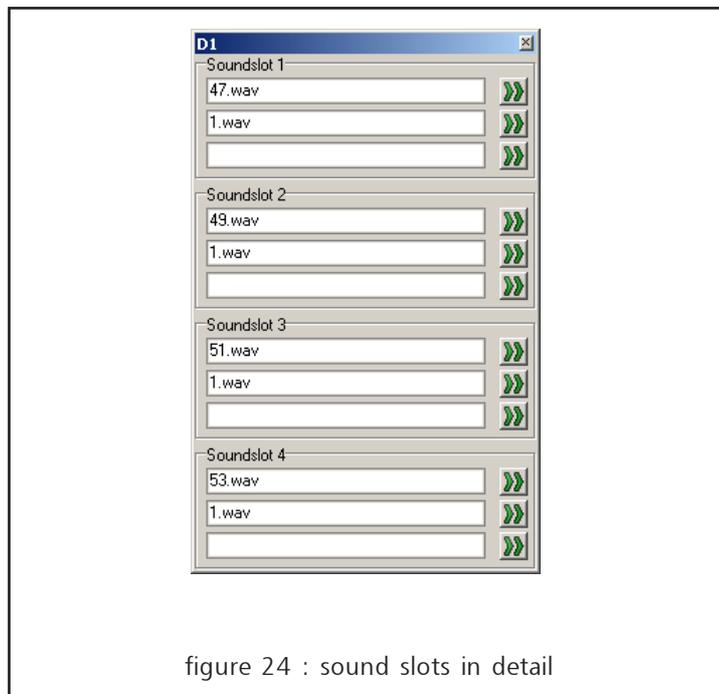
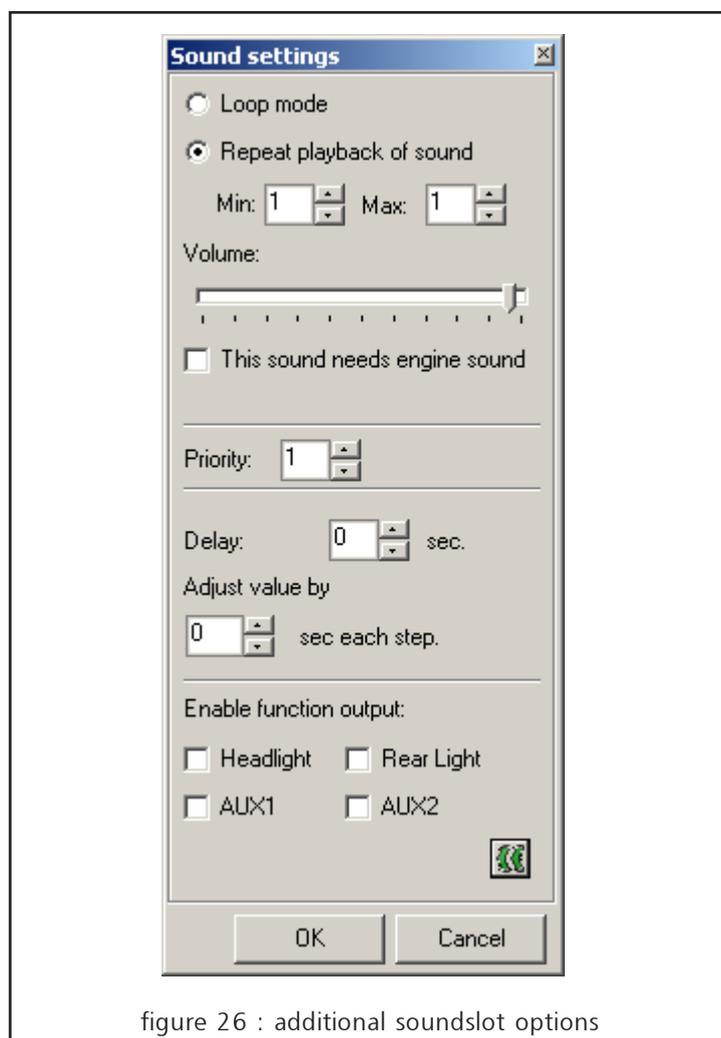

figure 24 : sound slots in detail
figure 26 : additional soundslot options
As soon as you click onto one of the fields for sound slots a pop-up window opens as shown in Figure 24. In this window the sound slots are enlarged for easier programming. This pop-up window can be moved around the screen and always shows the contents of the selected field marked with a red frame.
- A pop-up window as per Figure 24 opens.
For this purpose there is a field in the row next to the actual slot entry (see Figure 24) that opens another menu (Figure 26). Please note that depending on use and position of the sound slot not all options may be available.